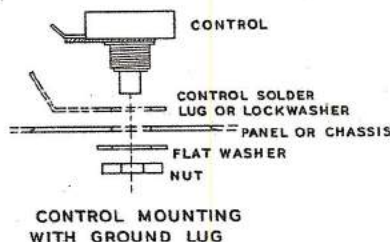

Figure 4
- (✓) Mount a 40 Ω wirewound control at location Q, using a lockwasher between the control and the chassis and a 3/8-32 nut on top of the chassis, as illustrated in Figure 4. Orient the lugs as shown. Bend the lugs upward if necessary to clear socket A.